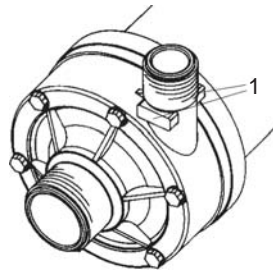

Figure 6: Grip (1).
- Use the grip on the pump outlet when assembling/disassembling the pipe connections to avoid damaging the pump body (see figure 6).